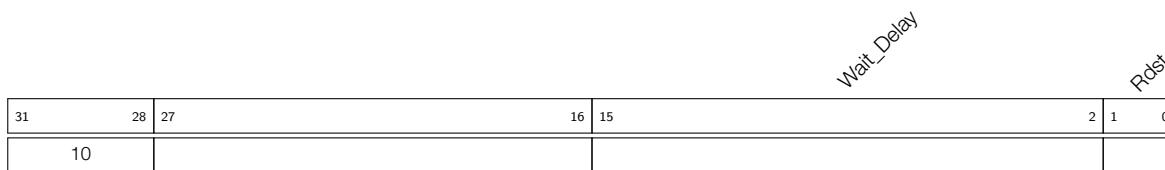

Figure 1-22. Instruction Type - TSENS
- Operand**    **Description** - see Figure 1-22